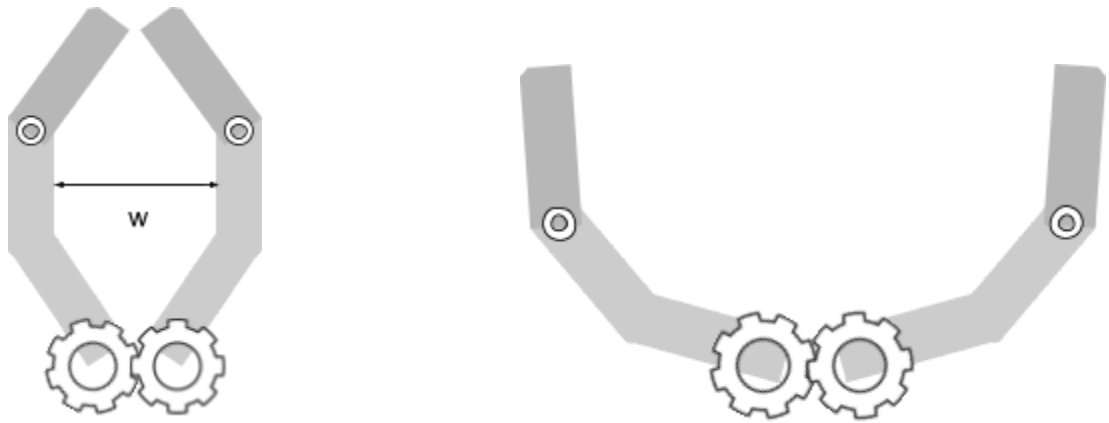

Figure 1: Pivot Pinch Claw Design (Left: Closed Claw, Right: Open Claw)
- The pivot pinch claw is the simplest version of pinch claws as you can see below (*Figure 1*). The construction is straightforward and fast.